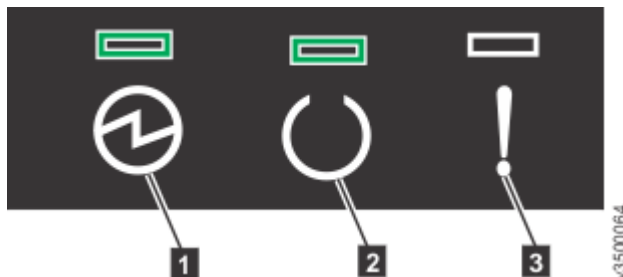

Figure 141. Node canister LEDs
5. From the rear of the control enclosure, check the LEDs on each node canister. (See Figure 141 on page 128.)